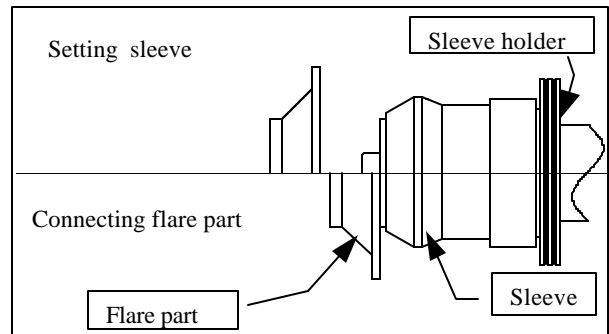

Fig. 15 Setting sleeve/flare part
- After setting the sleeve, connect the flare part to the sleeve holder from the front (see Fig. 15; for applicable parts, see Table 7).